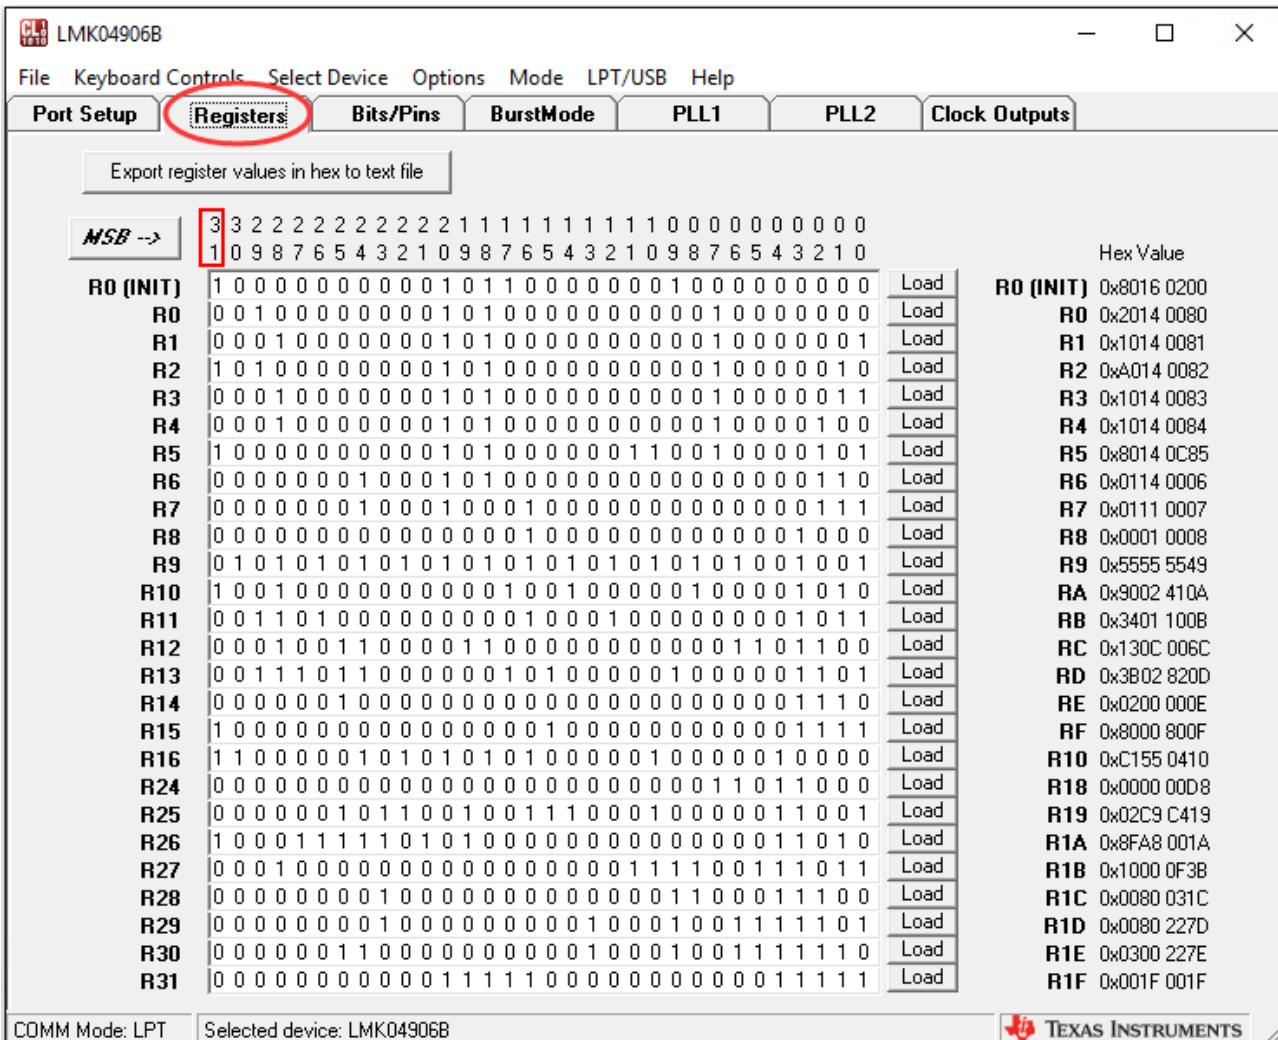

Figure 5-11 Open Register Table on Codeloder
- After the setting is completed, CodeLoader generates a Register Table, which contains users setting frequency corresponding register values (See Figure 5-11).